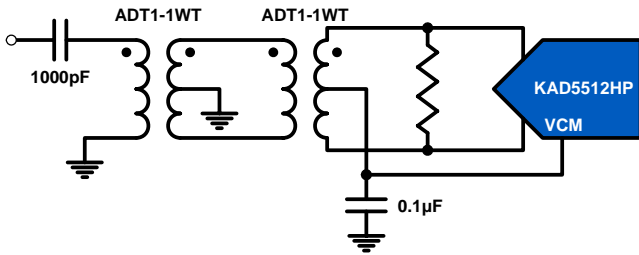

FIGURE 28. TRANSFORMER INPUT FOR GENERAL PURPOSE APPLICATIONS
Figures 28 through 30. An RF transformer will give the best noise and distortion performance for wideband and/or high intermediate frequency (IF) inputs. Two different transformer input schemes are shown in Figures 28 and 29.